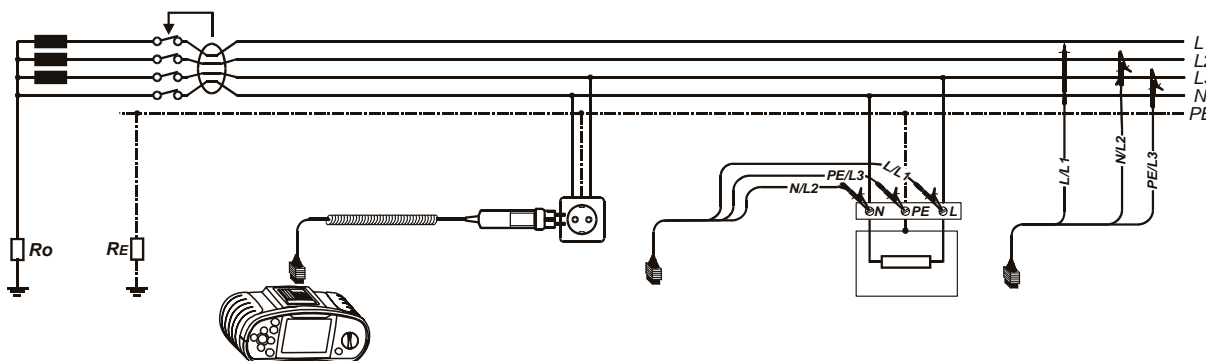

Figure 5.37: Connection diagram
Step 2 Connect test cable to the Eurotest instrument and follow the connection diagram shown in figure 5.37 to perform a voltage and frequency measurement.